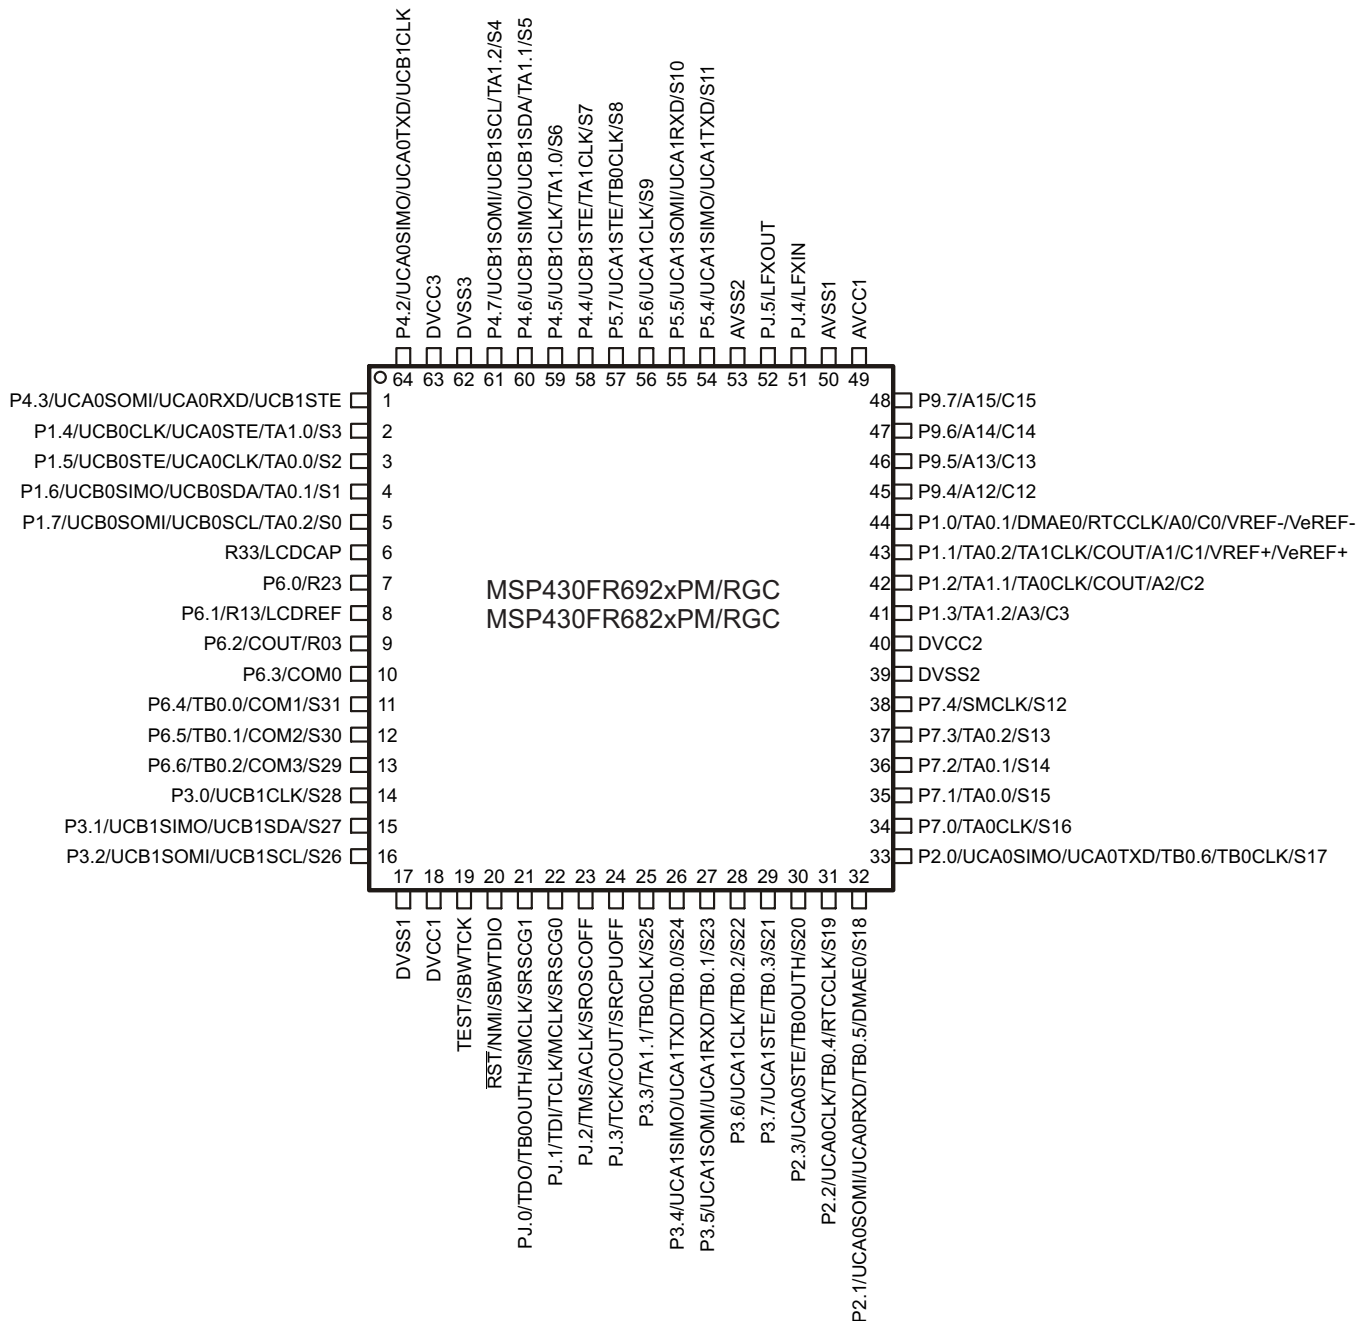

Figure 4-1. 64-Pin PM and RGC Packages (Top View), MSP430FR692x(1) MSP430FR682x(1)
Figure 4-1 show the pin assignments for the 64-pin PM and RGC packages of the MSP430FR692x(1) and MSP430FR682x(1).